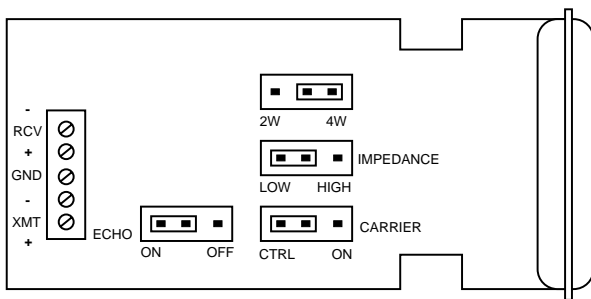

Figure 3-1. Strap (jumper) locations.
4. Referring to **Figure 3-1** on the next page and **Table 3-1** on **page 8**, set the Driver's straps (jumpers) to suit your application.